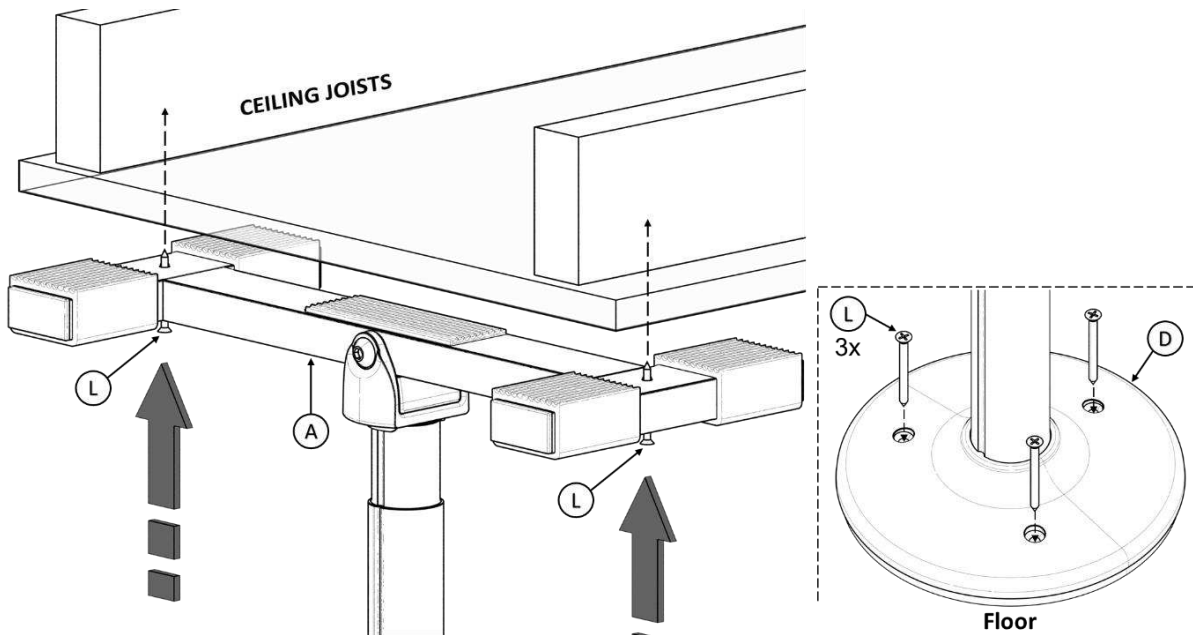

FIGURE 8
8. This step is only **required** for ceilings taller than 10' or if angled. If your ceiling is angled, go to **Step 9** first. Secure with screws (**L**) as shown in *FIGURE 8*, making sure that **L** goes through the **CEILING JOISTS**. If the **Floor** is ceramic or concrete, drill holes first.